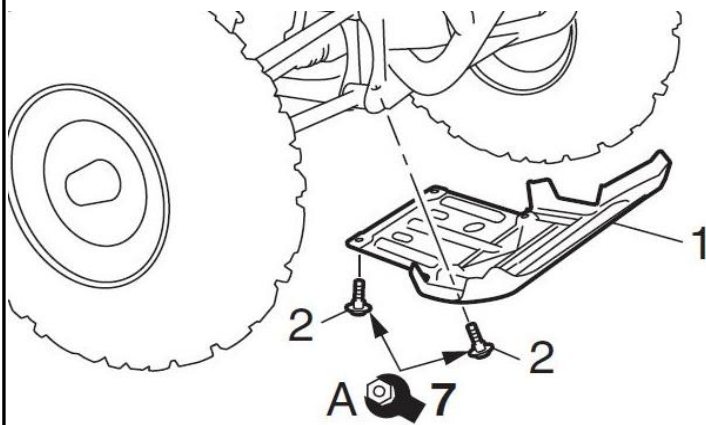

Fig. 2
3. Attach the fairlead to the ① winch mount. (Fig. 2) 16 Nm torque nuts (12 Ft-Lb or 1.6 m-kg)